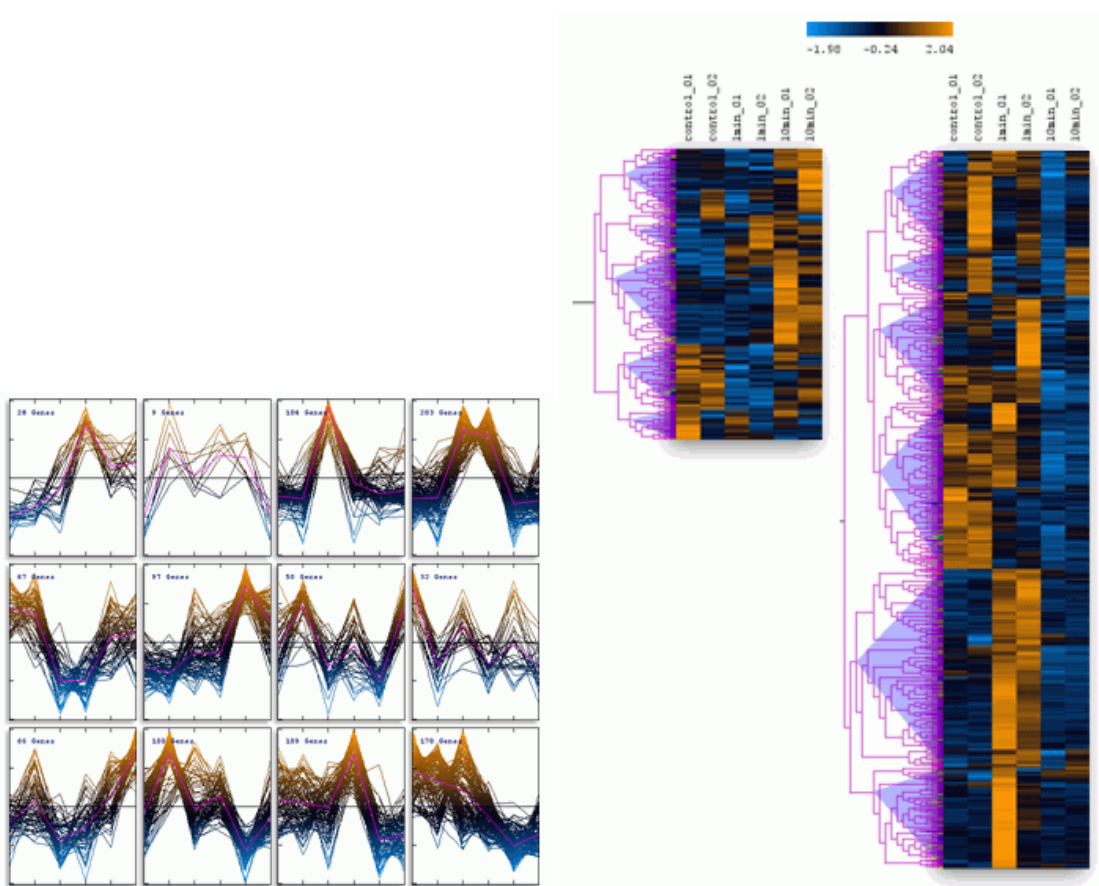

Figure 5.66.: Combined expression profiles in 12 clusters.
- A new section called Gene Tree Cut is created in the left hand side of the display (fig. 5.66 on page 139).